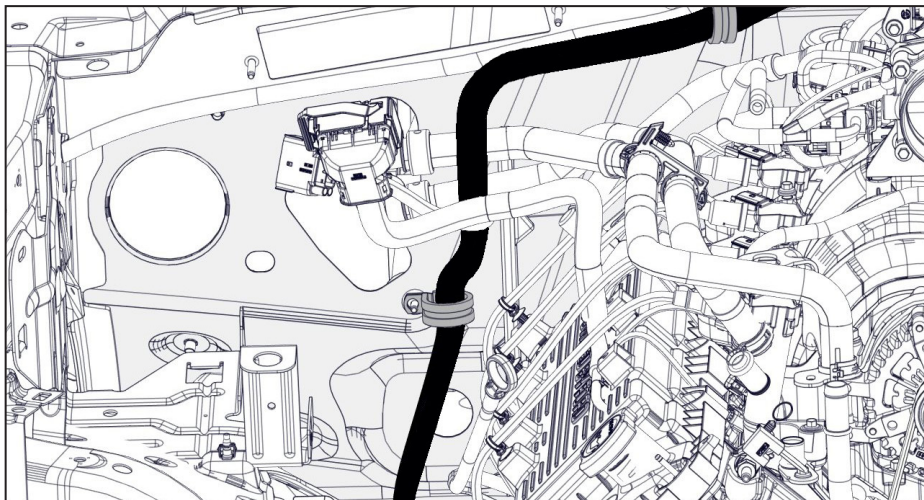

Figure 40 — Route discharge hose
- ☐ Route the tube and hose bundle down the firewall toward the passenger side inner fender. Using the supplied P-clip, secure the 1 in hose to the stud on the firewall (Figure 40).